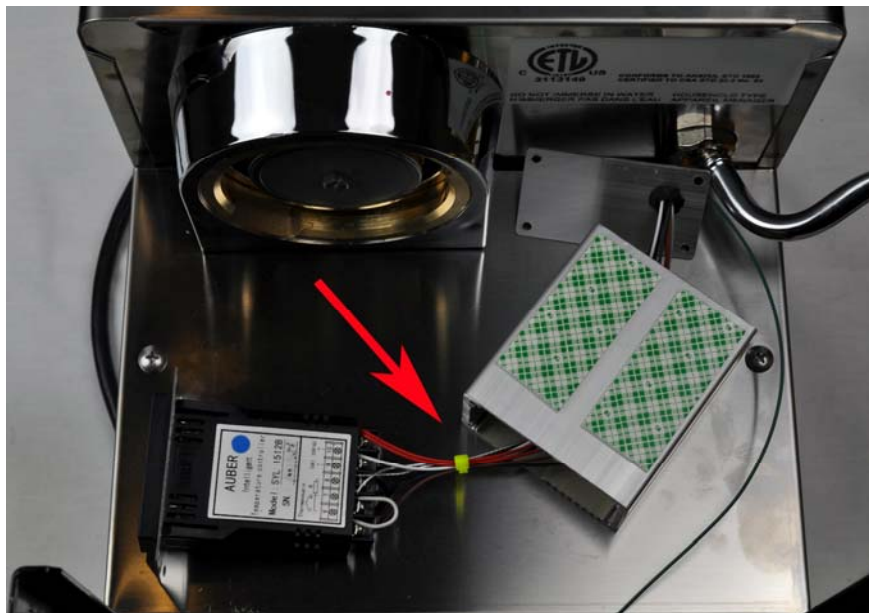

Figure 28. Install a cable tie as strain relief (red arrow)
- 5) Install a cable tie as strain relief. Place a cable tie at 1.5 to 2 inches away from the back of the controller (make sure the tie is not too close to the back terminals, otherwise, the cable will have no room to bend). Cut off the tail of the tie as shown in Figure. 28. This tie will function as strain relief to preventing the wire being pulled off the terminal.